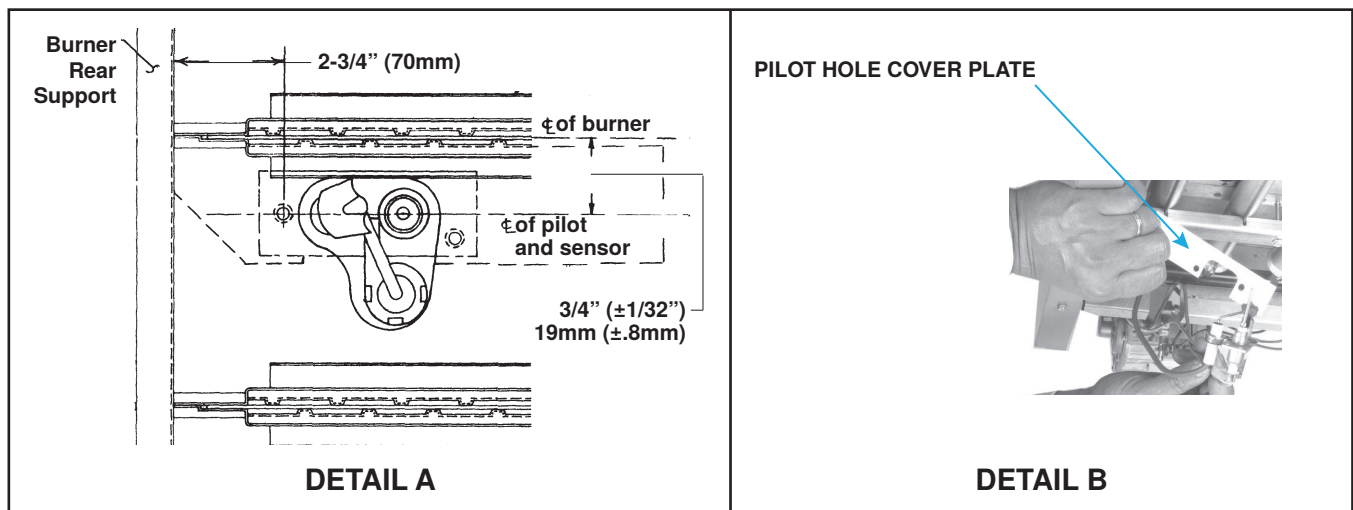

Figure 35. Pilot Location and Installation
- **The pilot is located (see Figure 35, DETAIL A) under the aeration panel on the control end of the burner tray and is accessible only after the burner rack assembly has been removed.**
- **When re-installing a vertical spark pilot, be sure to include the pilot hole cover plate (see Figure 35, DETAIL B).**